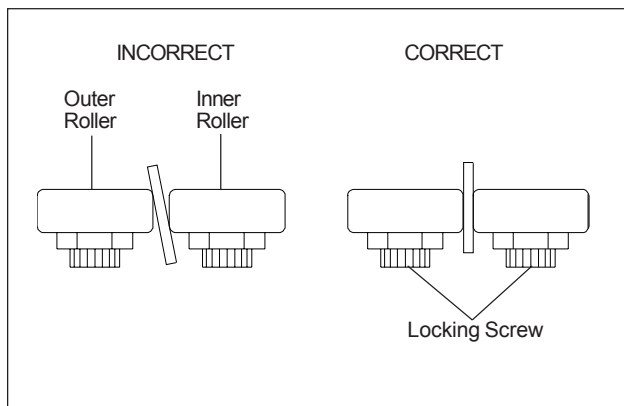

Figure 12: Blade-To-Blade Guide Orientation
3. Hold the bushing with a 3/4-inch wrench and loosen the center locking screw with an Allen wrench (see figure 12).